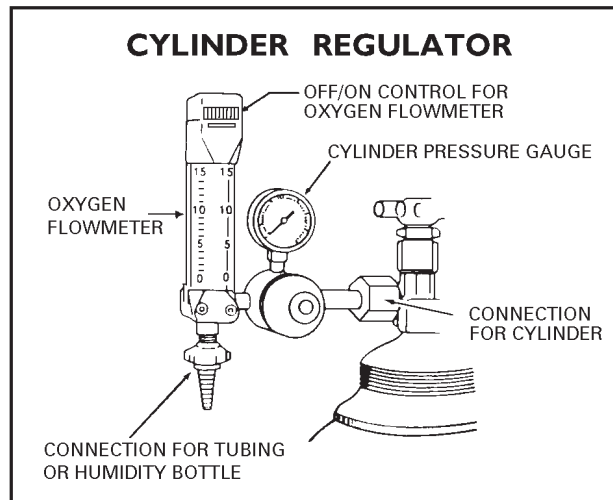

Figure 3-3. Cylinder with regulator
b. Cylinder with regulator/flowmeter. (See Figure 3-3.)